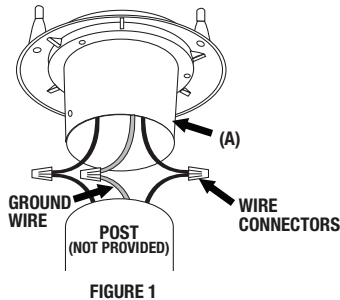

FIGURE 1
- **WIRING** - See Figure 1
- Connect the Black wire from the base of Post Collar (A) to Black wire of the supply circuit using Wire Connector (B).
- Connect the White wire from the base of Post Collar (A) to White wire of the supply circuit using Wire Connectors (B)
- Connect bare fixture ground wire to ground wire from supply circuit using Wire Connectors (B).